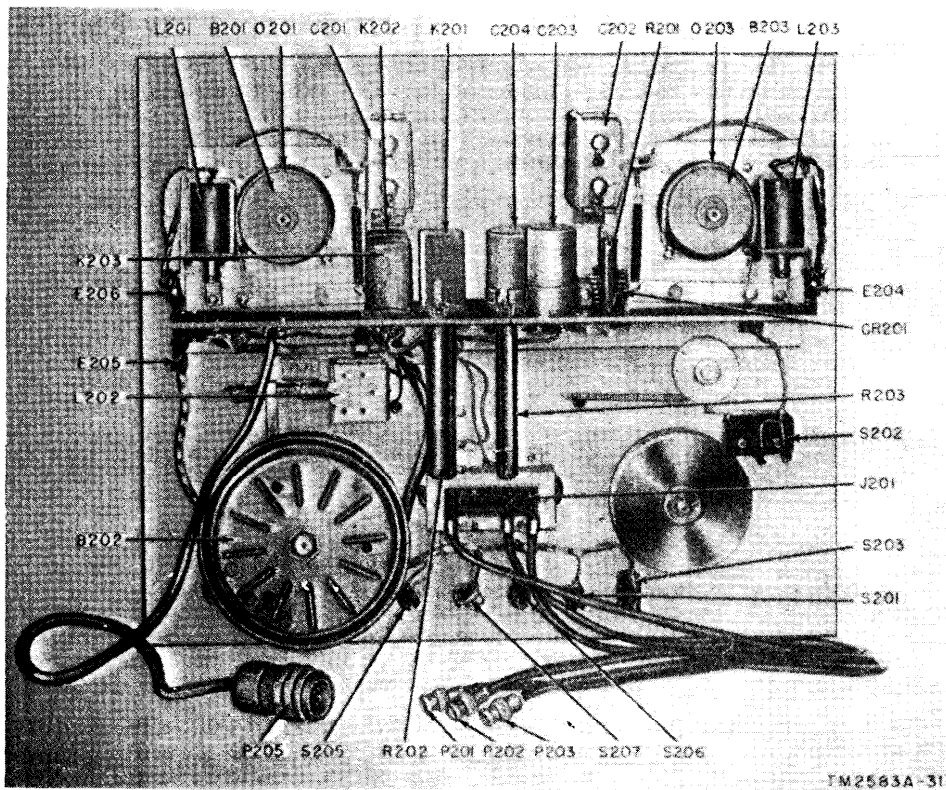

Figure 37. Recorder-reproducer, bottom view.
*b.* Remove and tag the electrical connections from the motor to terminal board E204 or E206 (fig. 37).
To remove the capstan motor (fig. 37), disconnect all leads, remove the recorder-reproducer (par. 71), and proceed as follows:
- (1) Clean the surface of the brake pulley with Cleaning Compound (par. 31).
- (2) Adjust the two No. 8-32 nuts on the spade bolt that hold the brake tension spring until proper braking action is obtained (a above).
c. *Additional Adjustments.* When operating the equipment with a 7-inch reel, move the tape of resistor R202 (fig. 37) to the 150-ohm position.